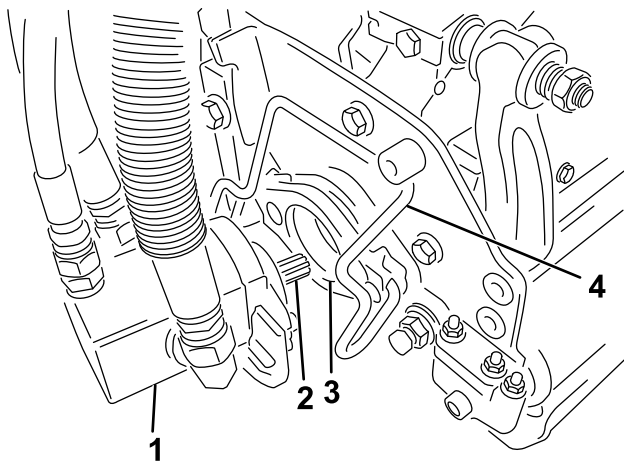

Figure 57
5. Coat the spline shaft of the cutting unit motor with clean grease (Figure 57).
6. Insert the motor into the left side of the cutting unit (as viewed from the operator's position) and pull the motor retaining bar on the cutting unit toward the motor until you hear a click from both sides of the motor (Figure 57).